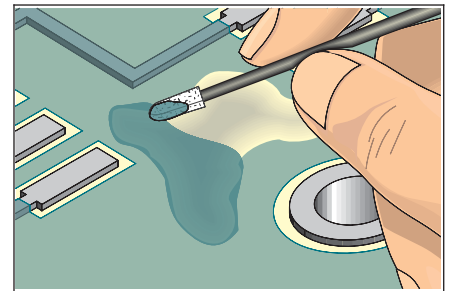

Figure 2 Apply epoxy. Foam swab may be used to add texture.
4. Apply or use as needed. (See Figure 2.)